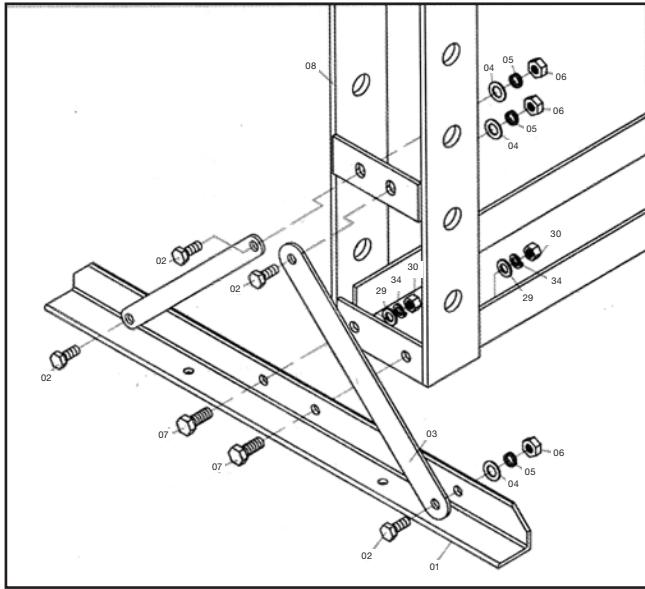

Figure 1
- The bed frame (25) is at the bottom for convenient packaging and transport, then fixed on the post by two bolts M12.
- **Attach the foot section (01) and support (03) to left and right connecting plate using bolt (02), washer (04), lock washer (05) and nut (06). (figure 1)**